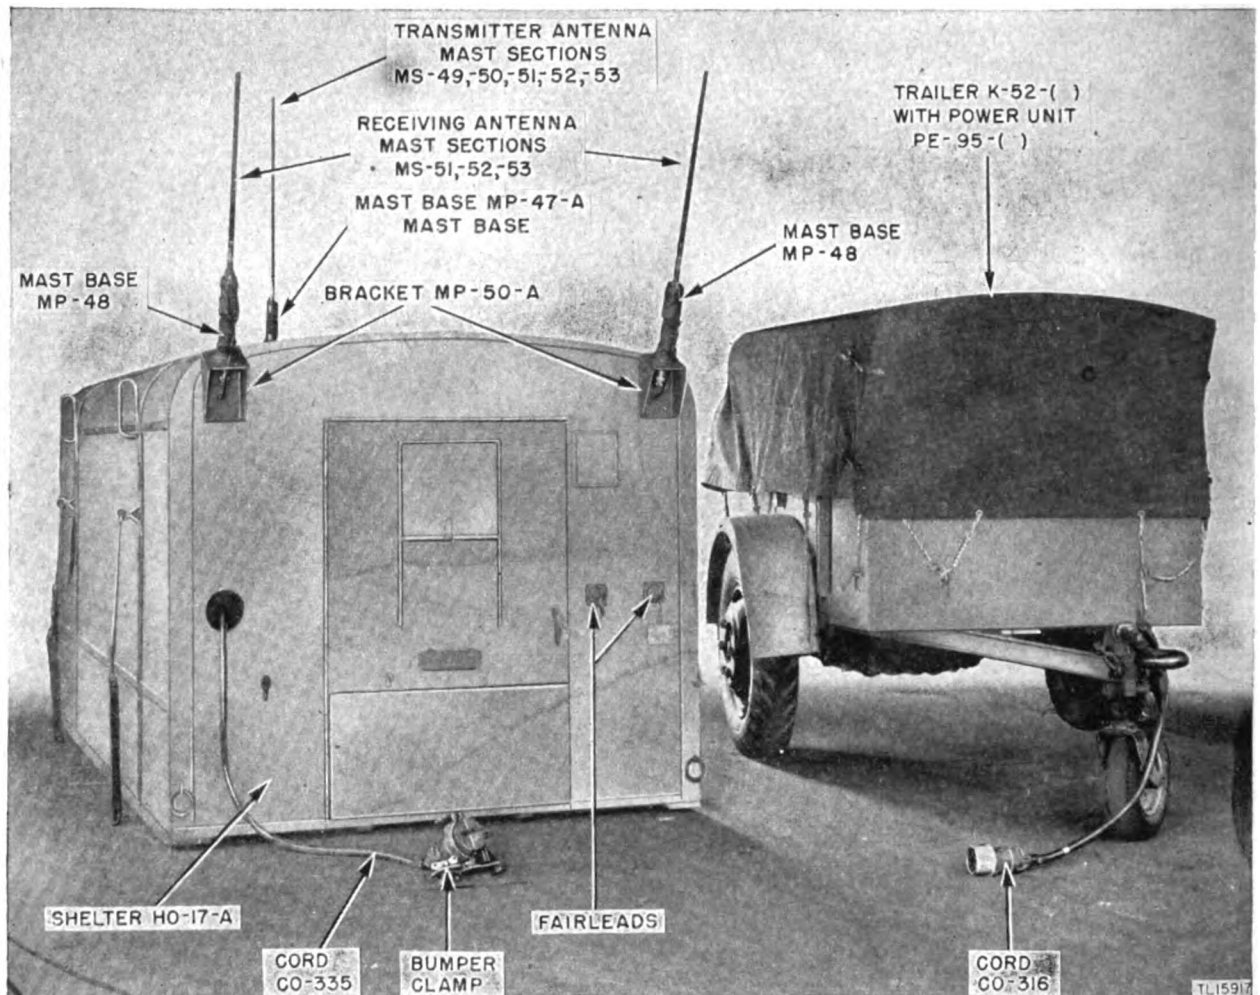

Figure 26. Shelter HO-17-A and Trailer K-52-(), whip antennas, Cord CO-335, and Cord CO-316 installed.
(4) Place Antenna Tuning Unit BC-939-A on top of the transmitter and fasten it in position.
(5) Bolt Mast Base Brackets MP-50-A with Mast Bases MP-48 to the rear of the shelter. (See fig. 26.) Attach the short external lead wire between the mast bases and the lead-in bushings. Bolt Mast Base MP-47-A in place on the roof of the shelter and attach the antenna lead wire between the binding post on the mast base and the binding post at the rear of Antenna Tuning Unit BC-939-A. For information on assembling the antennas, see paragraph 33.
(6) Attach the bumper bracket for Cord CO-335 to the left-hand bumper at the rear of the truck. Do not drill holes in the truck. If the truck body is wooden, chip a small amount of
(7) Extend Cord CO-335 through the hole and clamp in the rear of the shelter. Bring the outer plug down behind the truck body and clamp it into the bumper bracket. (See figs. 26 and 27.)
a. Select the following items from Chest CH-89-A. (1) One Mast Section MS-49.
(2) One Mast Section MS-50.
(3) One Mast Section MS-51, to which a metal S-link has been attached (for guying down the transmitter antenna).
(4) Two Mast Sections MS-51.
(5) Three Mast Sections MS-52.
(6) Three Mast Sections MS-53.
(7) Insulated guy ropes for the transmitting antennas.
(8) Two insulated guy ropes for the receiving antennas.
b. Assemble the transmitting antenna (fig. 26) as follows:
(1) Screw Mast Section MS-49 into Mast Section MS-50. Use two pairs of gas pliers to tighten the connection. Tape the joint with 1/2-inch friction tape.
(2) Repeat this procedure with Mast Sections MS-51, MS-52, and MS-53.
(3) Carry the guy rope and the assembled antenna sections onto the shelter roof, and screw Mast Section MS-53 into Mast Base MP-47-A.
(4) Attach the catches at the rope end of each guy rope to the holes in the corners of Mast Base Brackets MP-50-A.
(5) With hand outstretched at shoulder height, stand at the center of the roof and bend the antenna backwards to a horizontal position.
(6) Hold the antenna down in this position, walk to the rear of the roof, and with the other hand pick up the insulator end of the guy rope and attach it to the S-link on Mast Section MS-51.
c. Assemble the left-hand receiving antenna (fig. 26) as follows:
(1) Screw Mast Section MS-51 into MS-52. Use two pairs of gas pliers to make the connection tight. Tape the joint with 1/2-inch friction tape.
(2) Screw Mast Section MS-53 into Mast Section MS-52.
(3) Screw Mast Section MS-53 into Mast Base MP-48 on the left rear corner of the shelter.
d. Assemble the right-hand receiving antenna by repeating steps c(1) and (2) above. Screw the assembled sections into Mast Base MP-48 on the upper right rear corner of the shelter.